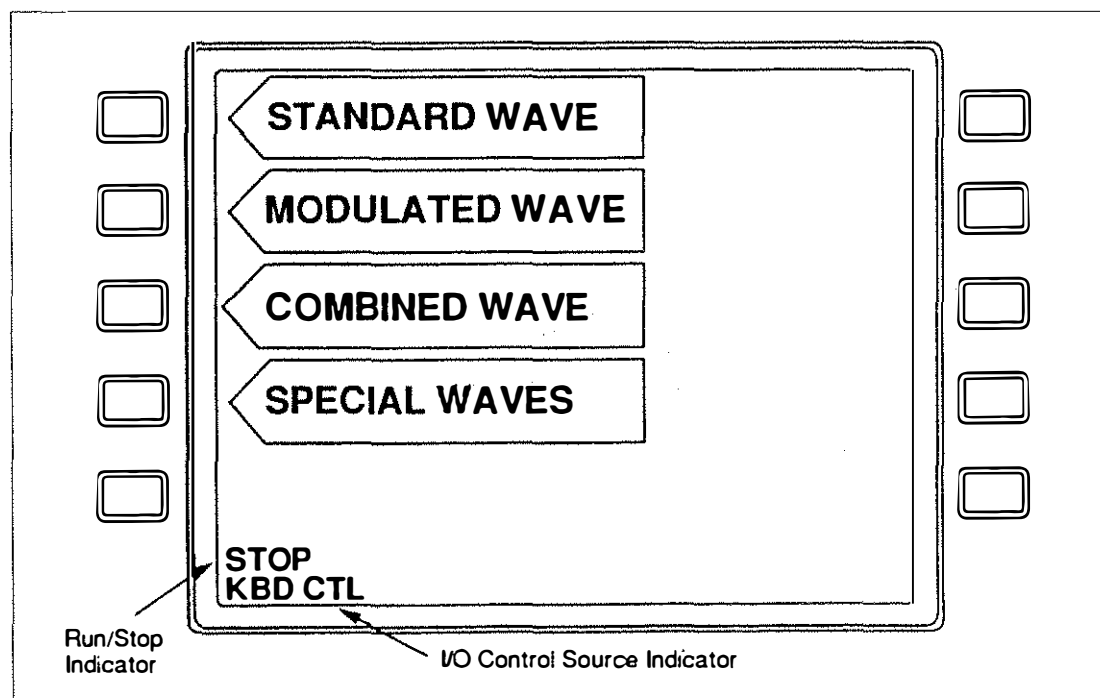

Figure 2-4. WAVE Menu Display
- When the power-on process is complete, the waveform menu in Figure 2-4 is displayed. If not, press the WAVE key. Note the labels in the lower left-hand corner: STOP means the main signal output is inactive; KBD CTL means that the instrument is under local (front panel) control.